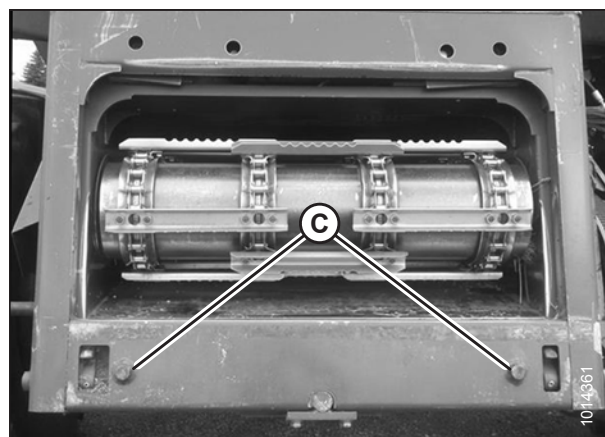

Figure 4.69: AGCO Group Alignment Pins
2. Start the engine and slowly approach the header until the feeder house is directly under the float module top cross member (A) and the alignment pins (C) (refer to Figure 4.69, page 283) on the feeder house are aligned with the holes (B) in the float module frame.